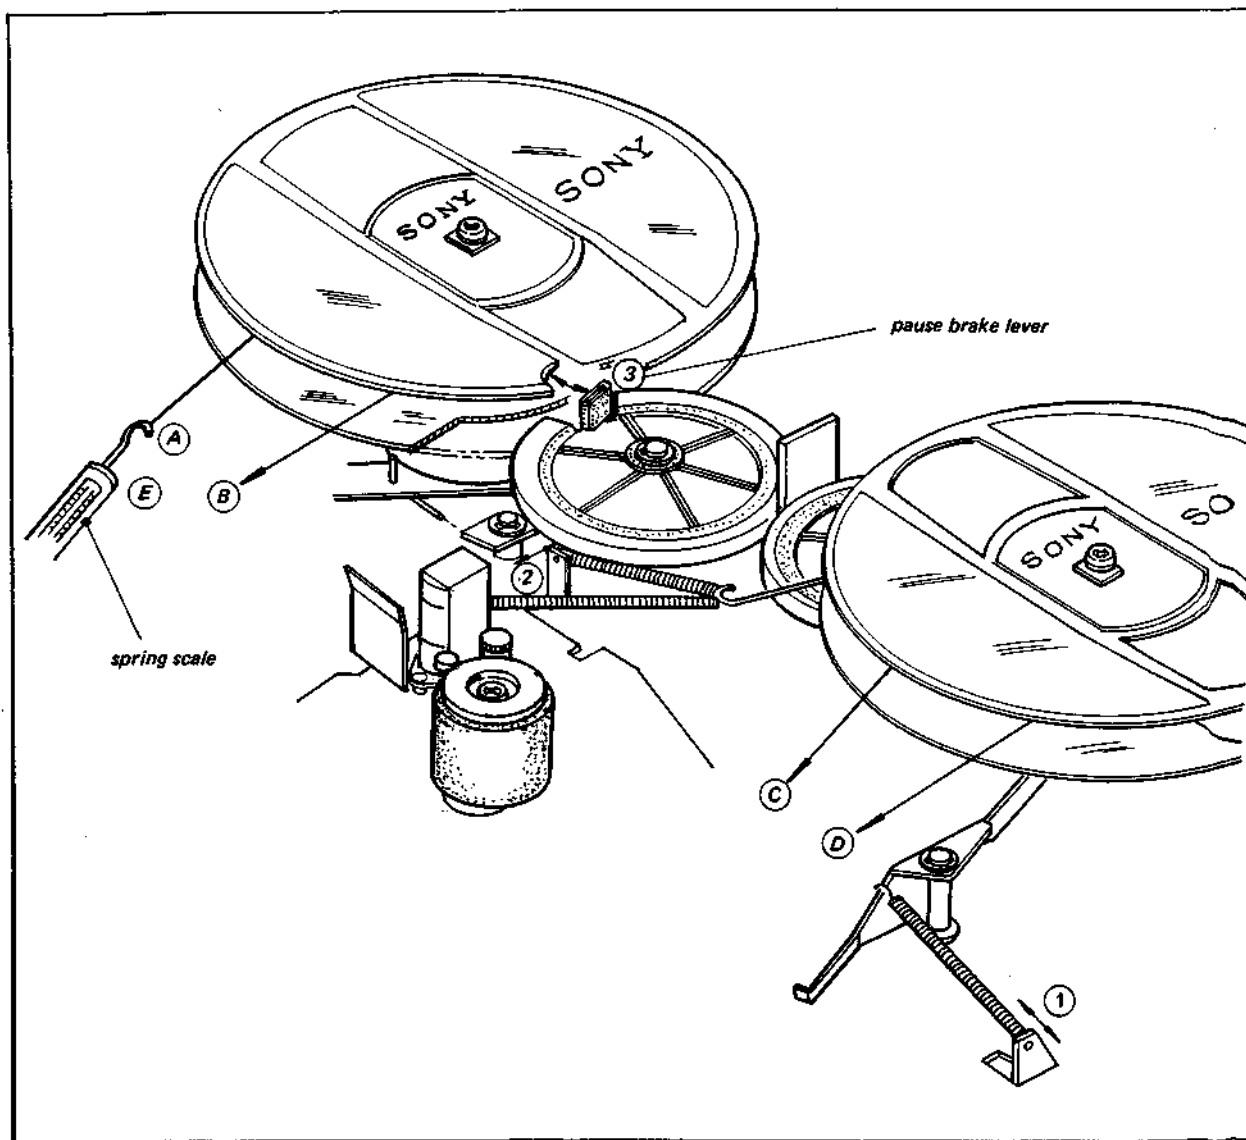

Fig. 4-14. Brake torque adjustment
2. Place an empty reel (RH-7V) with several turns of string wrapped around the hub onto the Supply Reel Table as shown in Fig. 4-14. Tie the reel to the spring scale. Pull the scale at a speed of approximately 4 inches/sec. Check the reading for brake torque. It should be more than 800 g-cm.
3. Repeat the above brake-torque checks for (B), (C) and (D) as indicated in Fig. 4-14. The brake torques should be less than 400 g-cm for the direction of (B) and (C) and more than 800g-cm for the direction of (D).
4. Bend Spring Supporting Brackets (1) and (2) with a pair of pliers, if necessary, to obtain the correct brake torques.
6. Repeat the procedure described in Step 2 for the direction indicated by (E) in Fig. 4-14. It should be more than 800 g-cm.
7. If necessary, bend the portion of the Pause Brake Lever identified by (3) with a pair of pliers.